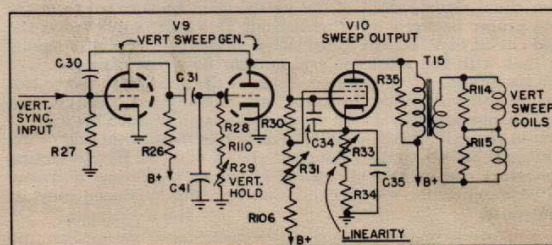

Fig. 9. Vertical Sweep and Output
7. VERTICAL SWEEP GENERATOR AND OUTPUT (SEE FIGURE 9).